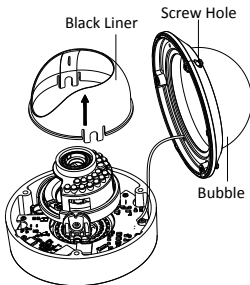

Figure 2-1 Remove the Cover and Black Liner
2. Open the cover and remove the inner black liner as shown in Figure 2-1.